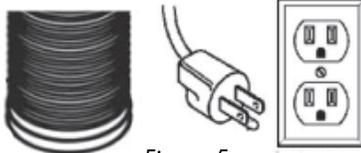

Figure 5
6. Make your electrical and ducting connections. Try and minimize the use of elbows. More elbows and longer runs create higher static pressure. The hood comes with a grounded three prong plug that can be plugged into a 20 amp circuit. The cord is 36" long. *Figure 5*